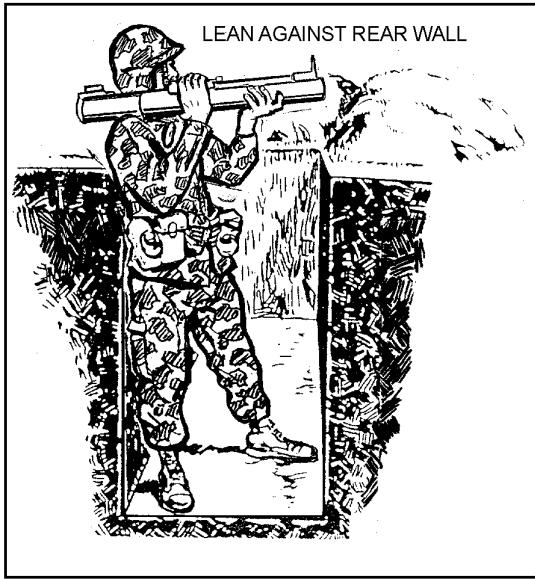
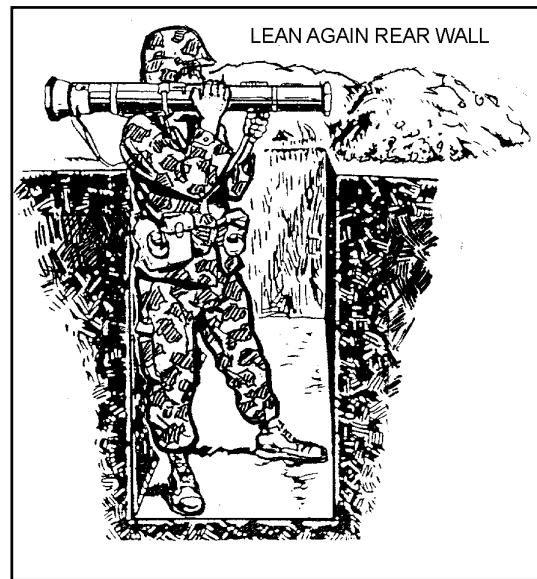

Figure 5-2. Modified standing, position, M72-series LAW.
Figure 5-3. Modified standing position, M136 AT4.
b. **Modified Standing Position.** Use this position when you occupy an infantry fighting position. Assume the basic standing position, but instead of stepping forward, lean against the back wall of the fighting position. Ensure that the venturi or rear of the weapon extends beyond the rear of the fighting position. Figure 5-2 shows the modified standing position for the M72-series LAW; Figure 5-3 shows the modified standing position for the M136 AT4. Ensure that **NONE** of the following are in your backblast area: